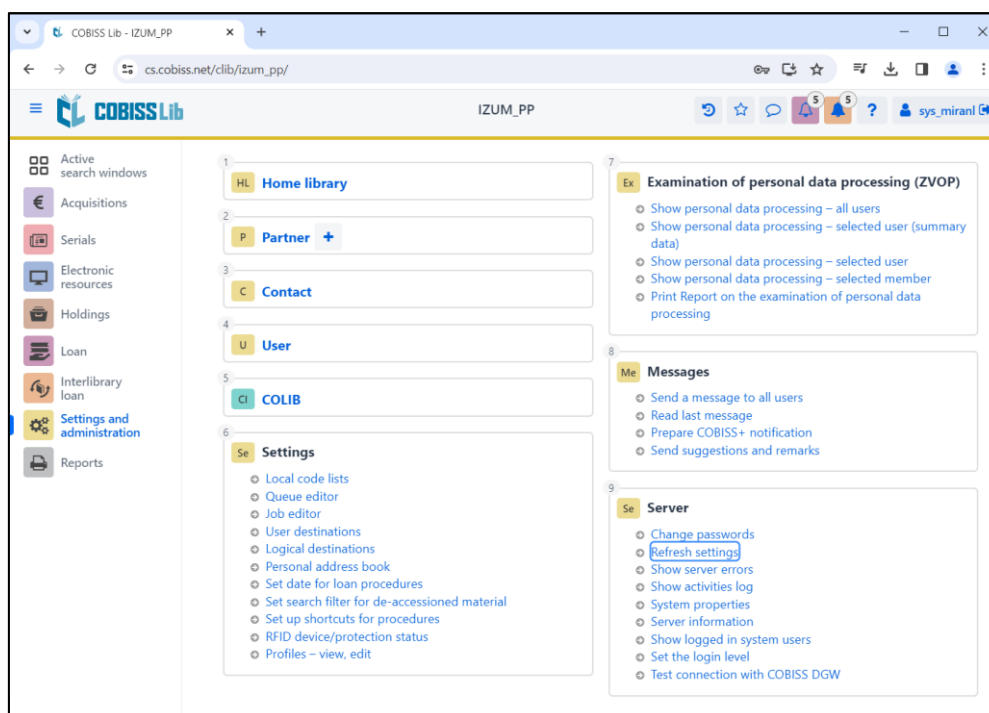

Figure 14: Refresh settings in the COBISS Lib user interface
- Figure 14: Refresh settings in the COBISS Lib user interface8
Once you define all the settings, confirm each choice by clicking the **OK** button. At the end, select **Refresh settings** in the **Settings** (see Figure 14). If this option is not available, you can refresh the new settings by signing out and back into the COBISS Lib software.